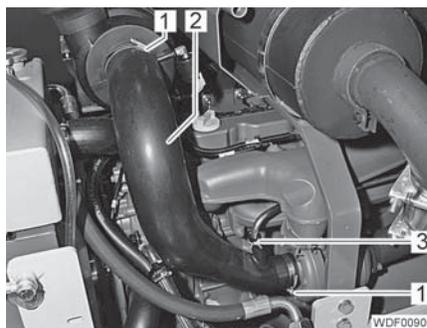
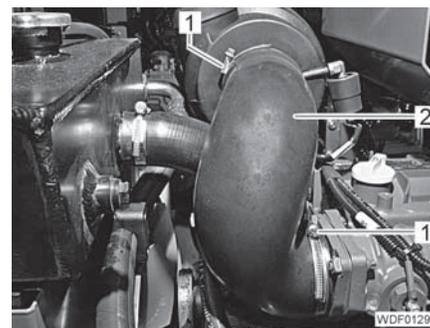

Fig. 84 Suction hose attachment (with turbo charger)
Fig. 85 Suction hose attachment (without turbo charger)
- Release the 2 hose clamps (Fig. 84,1 or Fig. 85,1).
- If present, disconnect the hose clamp (Fig. 84,3) for the engine-breather.
- Remove the suction hose (Fig. 84,2 or Fig. 85,2).
- Attach the new suction hose (Fig. 84,2 or Fig. 85,2) with the hose clamps to the connectors on the engine and the air filter housing.
- If present, fix the hose clamp (Fig. 84,3) for the engine-breather.
- Tighten the 2 hose clamps (Fig. 84,1 or Fig. 85,1).